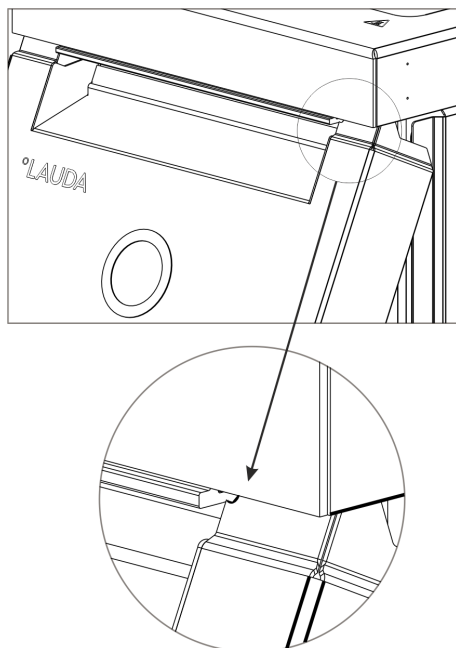

Fig. 79: Curves on the front panel
2. Push the front panel upward but make sure that the curves are still visible Fig. 79.